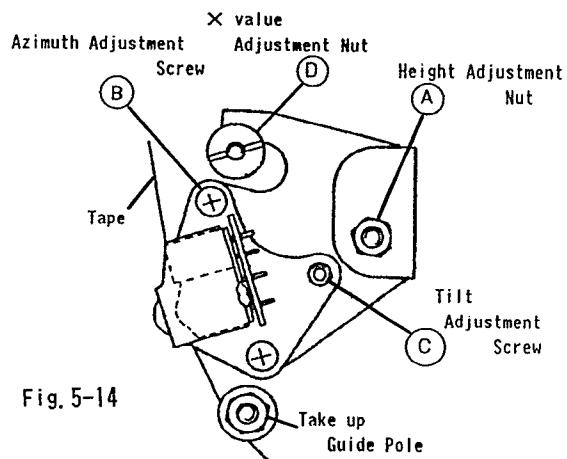

Fig. 5-14
3. After confirming on the oscilloscope that a 1 kHz audio signal is being output by playing back F6-A test tape, adjust the height adjustment nut ® so that the AC voltmeter's reading is brought to its maximum level (Refer to Fig. 5-14).
4. Adjust the azimuth adjustment screw ® so that the AC voltmeter's reading is brought to its maximum level (Refer to Fig. 5-14).
1. After confirming on the oscilloscope that a 6 kHz audio signal is being output by playing back F6-N test tape, adjust the azimuth adjustment screw ⑧ so that the AC voltmeter's reading or osilloscope waveform is brought to its maximum lebel (Refer to Fig. 5-14).